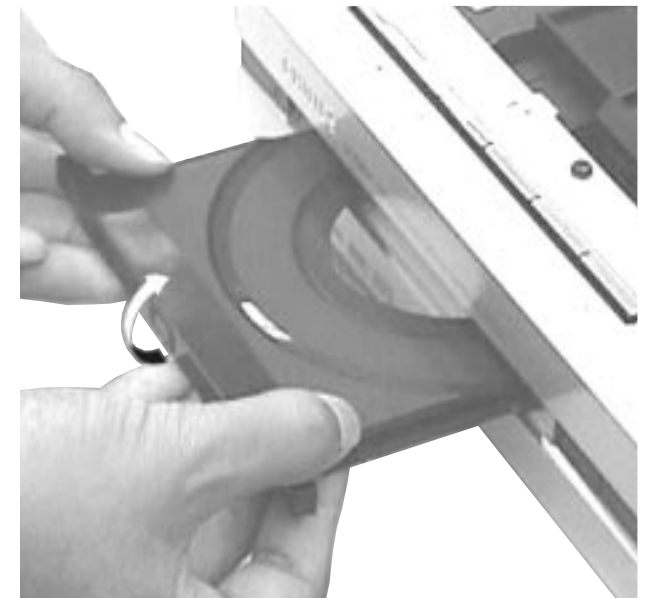

Figure 10
- 2) Slide out the DVD Tray and remove the Cover Tray DVD (pos 105) as shown in Figure 10.